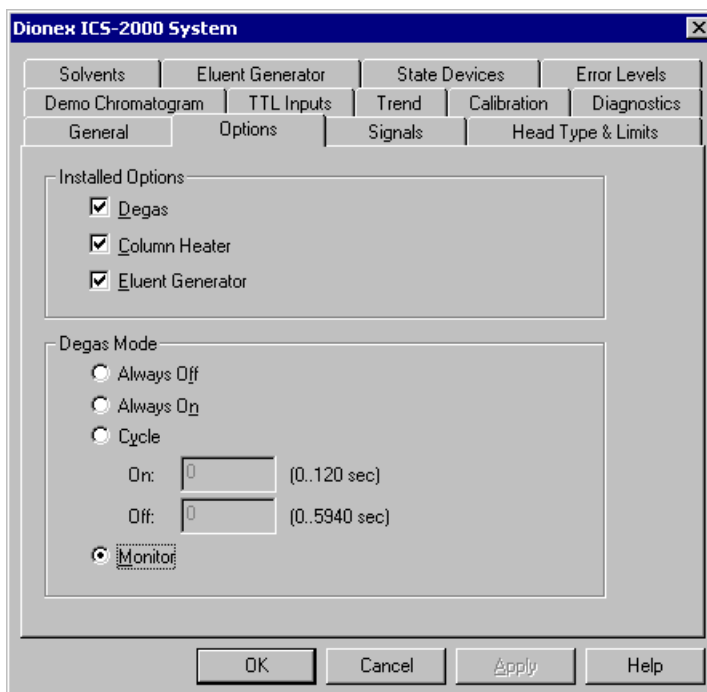

Figure 4-1. ICS-2000 Server Configuration Properties: Options
2. Select the **Options** tab (see Figure 4-1).